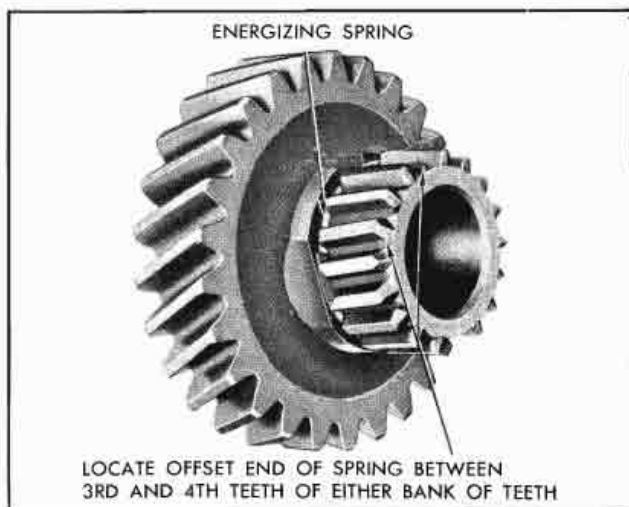

Fig. 7-45 Position of Synchronizer Ring Energizing Springs
1. It will be noticed, upon examining these springs, that one end is slightly offset. Each spring must be assembled in its grooves in the main drive (clutch) gear and the second speed gear with the offset, or locking end, between the third and fourth teeth of either of the two banks of teeth on these gears. This prevents the spring from turning in its groove (Fig. 7-45).